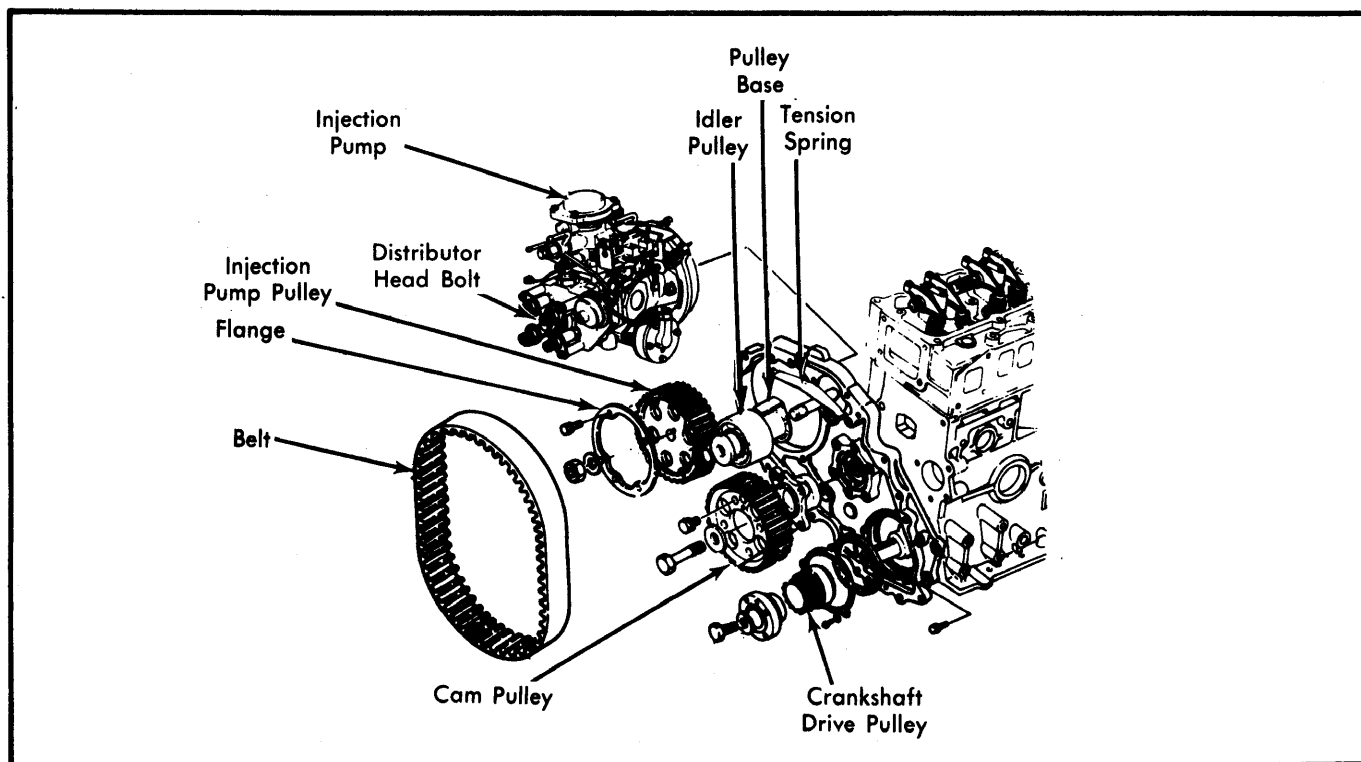

Fig. 1 Exploded View of Injection Pump Drive
2) Remove fan belts, air conditioning compressor and crankshaft pulley. Remove both timing belt covers, then remove tension spring and timing belt tension pulley. Remove timing belt. See Fig 1.